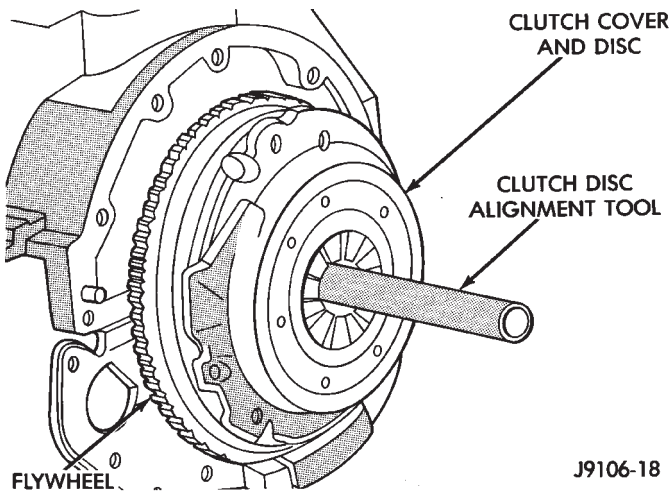

Fig. 5 Typical Method Of Aligning Clutch Disc
(6) Insert clutch alignment tool in clutch disc (Fig. 5).
(8) Position clutch cover over disc and on flywheel (Fig. 5).
(9) Install clutch cover bolts finger tight.
(10) Tighten cover bolts evenly and in rotation a few threads at a time. **Cover bolts must be tightened evenly and to specified torque to avoid distorting cover. Tightening torques are 31 N·m**